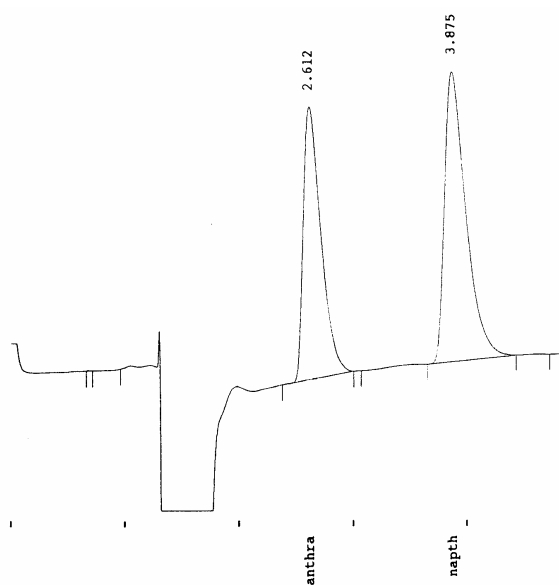

Figure 15: Chromatogram of RI Test Mixture
4. Use these chromatographic conditions. Refer to the chromatogram in Figure 15.
- Chromatogram of RI Test Sample (page 88 and Figure 15)